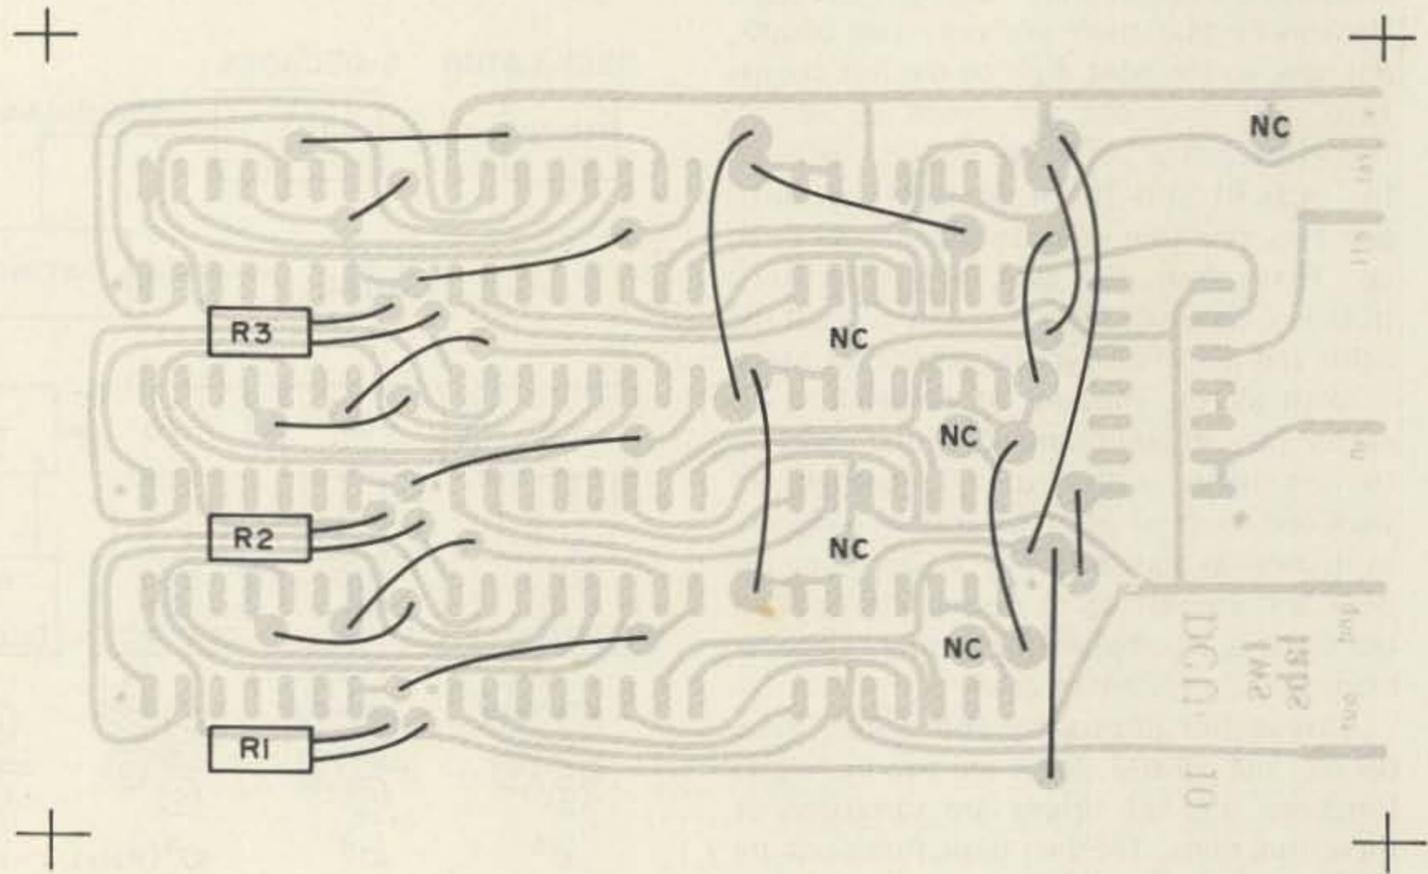
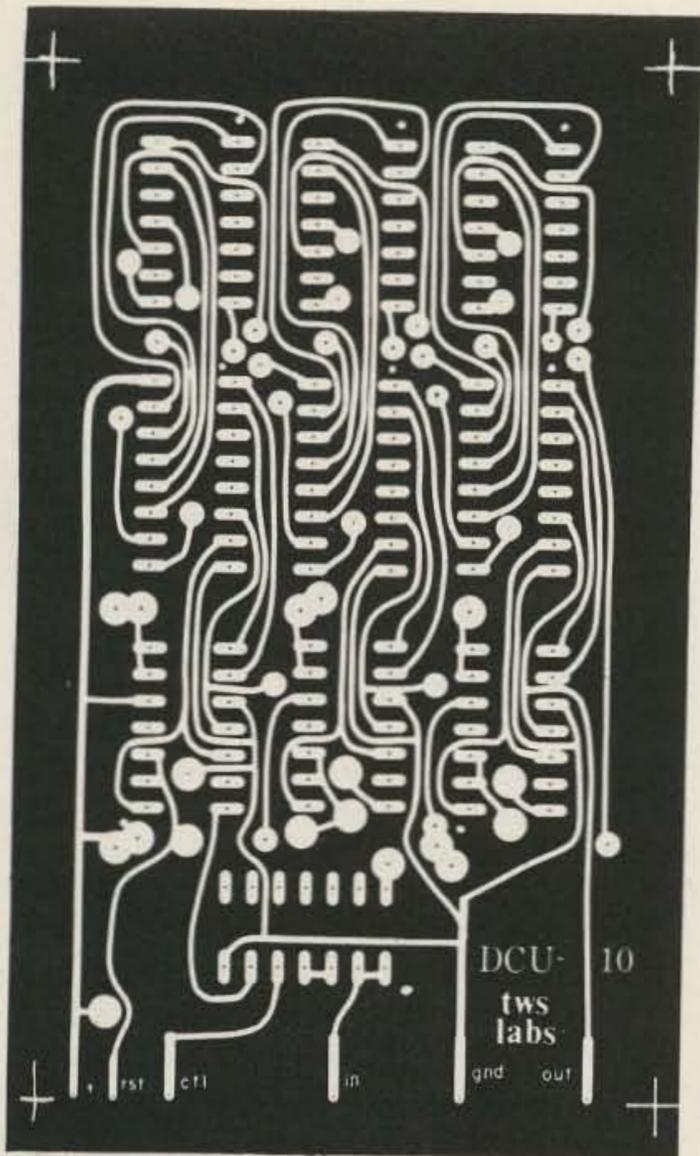

Fig. 8. Jumpers and IC alignment diagram.
Fig. 9. Foil side, PC board (full size).
1. Insert wires through top of board (Fig. 8) for top 1/3 of board.
19. Connect each wire to the pad that connects the bottom of R2 and R3 (Fig. 8) to pin 16 of their respective 7447s.
Begin construction by putting in the jumpers as shown in Fig. 8. Step-by-step assembly instructions are given in Table 1 for a foolproof assembly. Fig. 9 shows the PC layout (foil side). Fig. 10 is the schematic.
Fig. 12. Hook up 3 DCU as a 10 minute ID reminder. Warning lamp goes on at 9 min 50 sec, for 10 seconds. Note: D1 = pin 8 U1; D2 = pin 9 U1; D3 = pin 1 U3; D4 = pin 11 U3. U2 modified to  $\div 6$  (see Fig. 9).